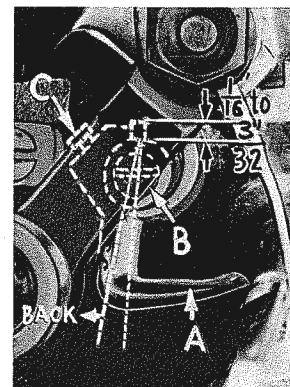

Fig. 8
Insert upper looper (A, Fig. 8) in its holder. Screw (B) holds upper looper in its holder, and permits it to be pushed in or out, or turned around its shank. Insert upper looper holder into upper looper shaft, if it is not already in place. Screw (C) on clamp holds the upper looper hold- in the shaft. Locate upper looper in its holder so that the shank extends $1/16$ to $3/32$ inch beyond holder.
When the upper looper is at the right end of its stroke, upper looper holder should be set to position upper looper shank back of vertical (Fig. 8). Be sure there is a clearance between heel of looper and casting.